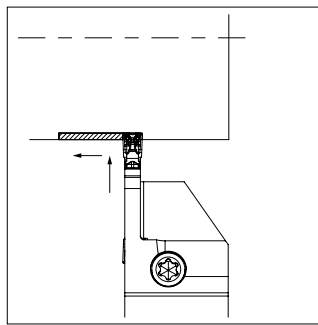

Fig.2
2. Grooving depth under 0.5 mm : For finishing - refer to fig. 2